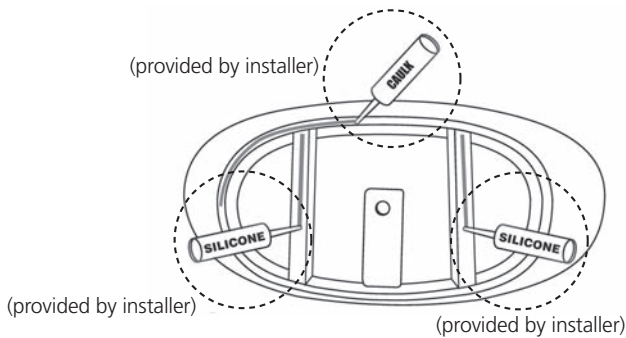

figure 12
17. Apply a generous bead of adhesive or silicone to the bottom of the tub supports (figure 12).